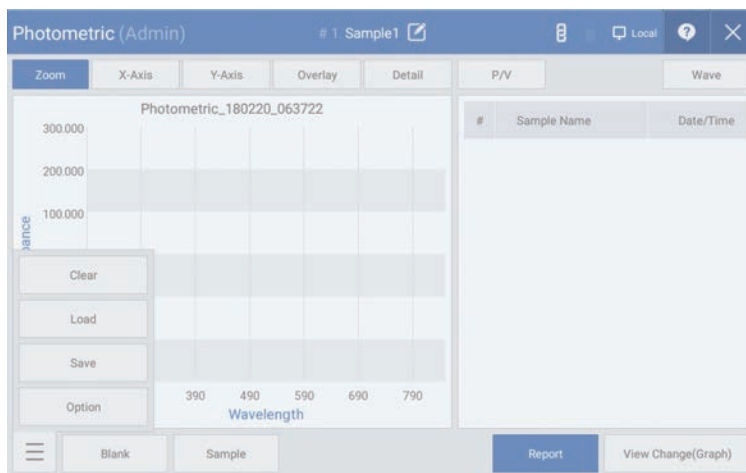

Fig. 3.7
1. Click the “Settings” button in [Fig. 3.7] to set the measurement environment.
2. Load the blank sample and click “Blank” shown in [Fig. 3.7] to measure the zero point.
4. Load the sample and click the “Sample” button shown in [Fig. 3.7] to begin measurement.